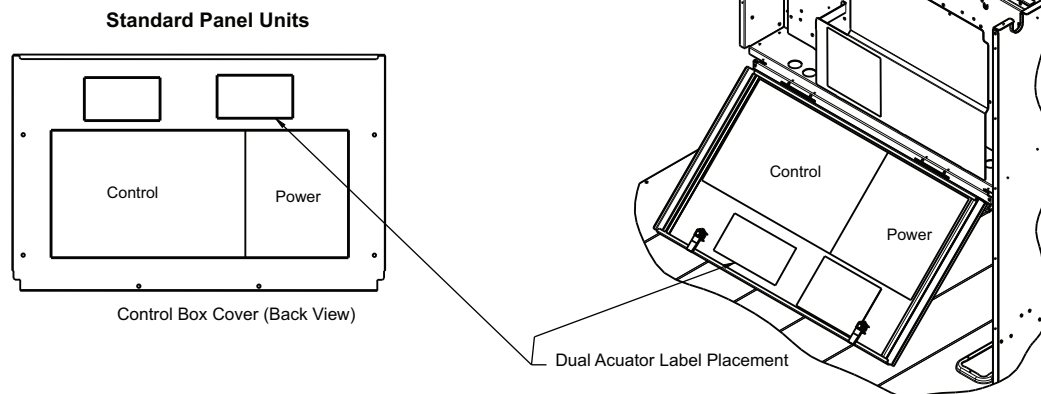

Fig. 17 — Dual Actuator Label Location
26. Attach the dual actuator label near the unit’s wiring diagram as shown in Fig. 17. On hinge panel units it is on the control box door and on standard access panels it is on the back side of the control box cover.